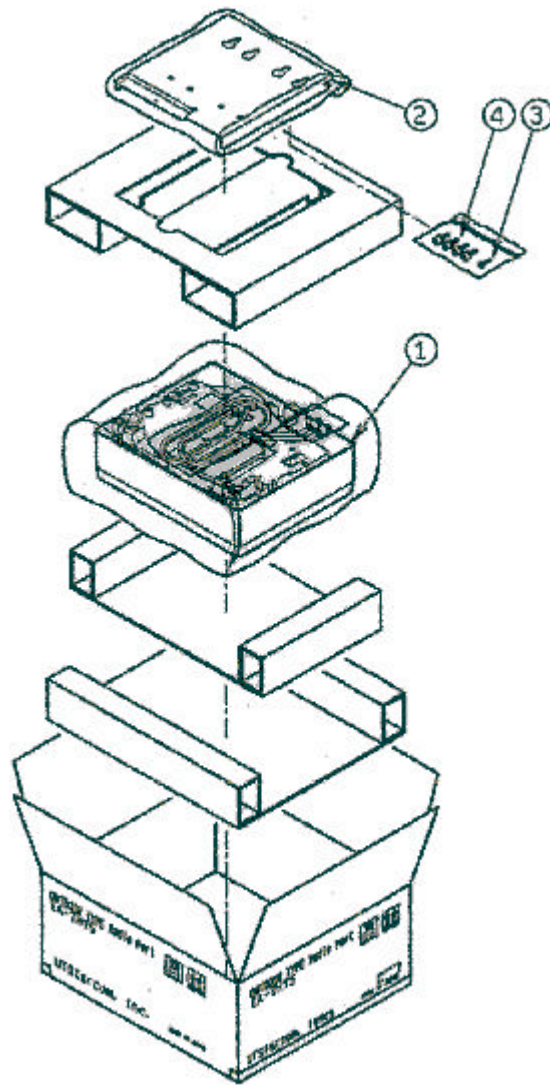

Figure 3-13: Overview of the RP, Packing, and Accessories
1. Unpack the outdoor RP and accessories and make sure they are in good condition. Refer to Figure 3-13. The package includes:
- Outdoor RP (1)
- Mounting plate (2)
- One M4 screw (3)
- Four M6 screws (4)